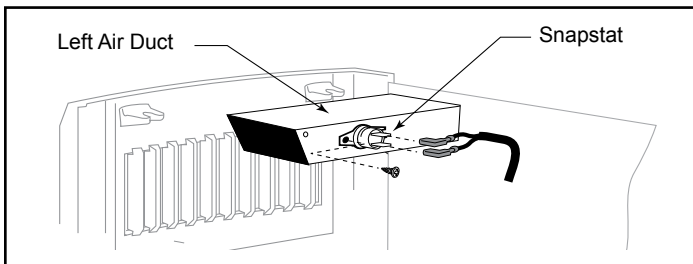

**Figure 61** - Attach snapstat wire assembly to inside of inner shroud with clamp screws.
4. Place the grommet provided in the parts bag assembly on the inner shroud. Run the snapstat extension assembly leads through the grommet toward the firebox. (Figure 61)